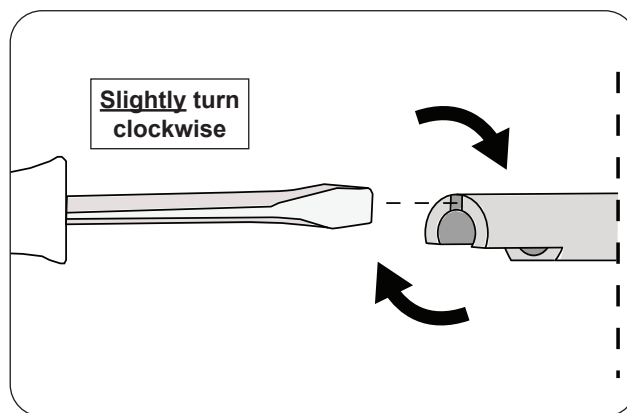

Fig. 42-2 Stem adjustment
2. Insert a flathead screwdriver into the split portion of the stem and **GENTLY** turn the screwdriver clockwise. Be cautious! Only a slight turn is needed as the stem is flexible. See Fig. 42-2.